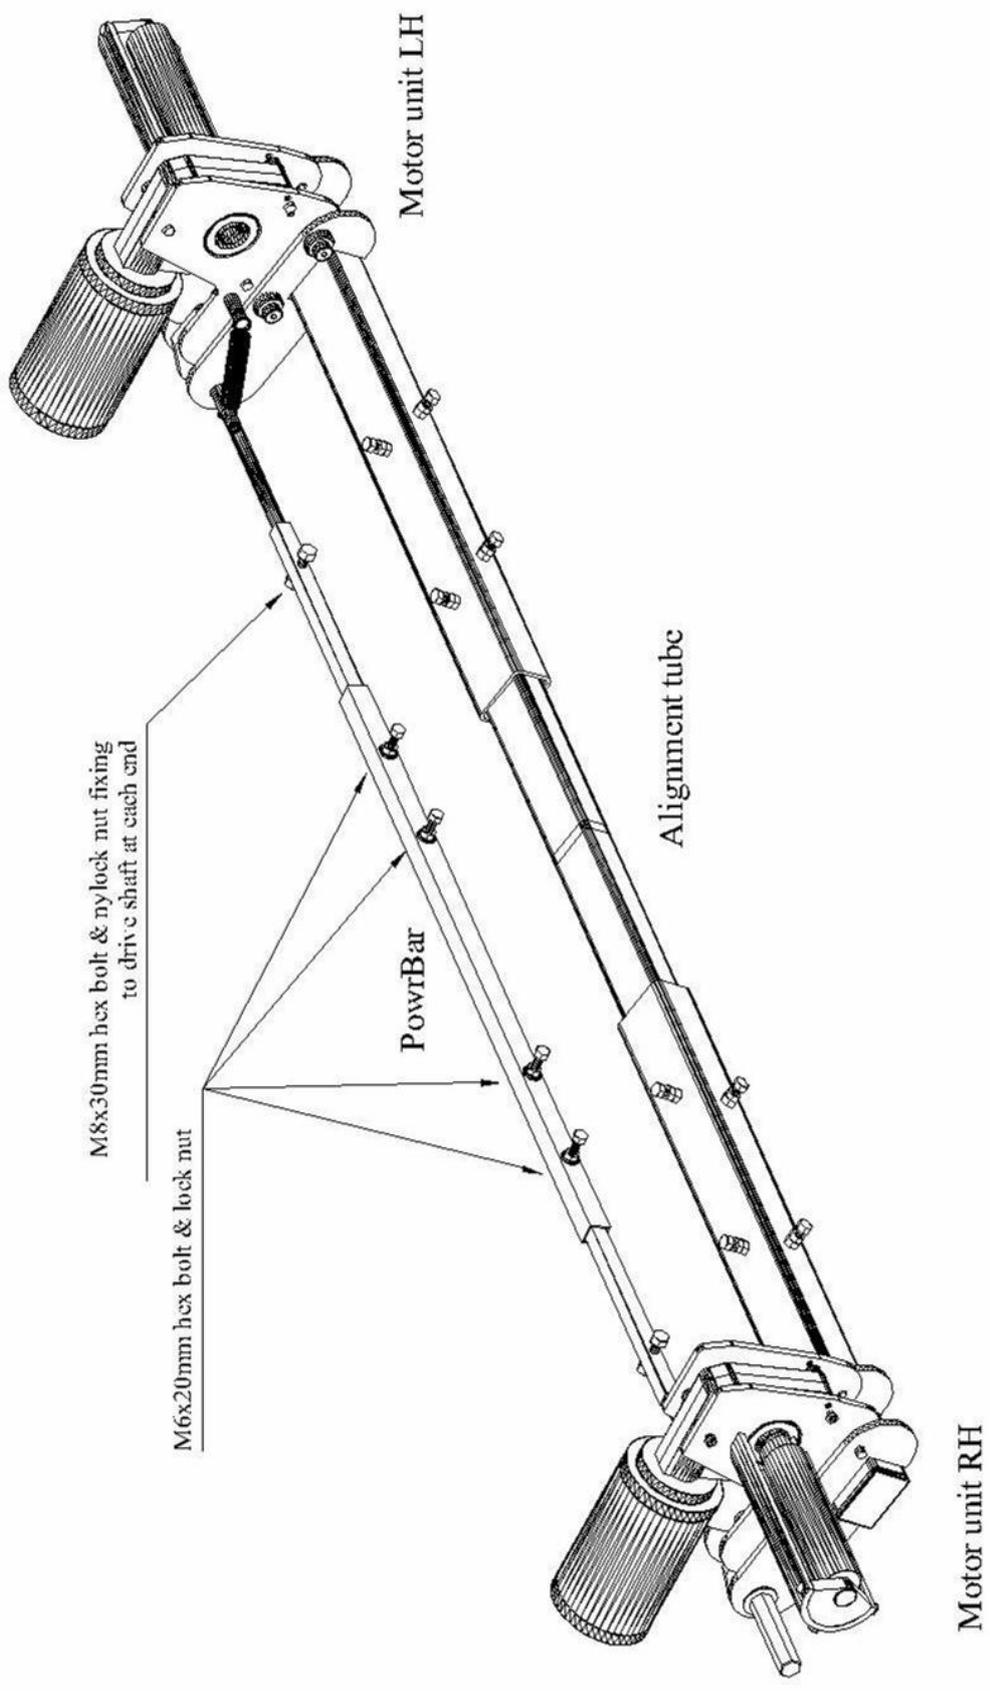

Fig 5. Drawing showing PowrBar Installation
**For safety reasons it is recommended that the fitting of the Powrtouch should be undertaken on a flat hard standing.** Before raising the caravan ensure the handbrake is on and then it can be raised as required (using trolley jack and/or axle stands) and secured in position using the caravan steadying legs with supporting blocks and wheel wedges as necessary; it is then helpful to lay down a ground sheet. Remove all items from the packaging onto the protective sheet. Ensure both rollers are in the DISENGAGED position, as the unit will not fit correctly otherwise. Loosely assemble the left hand motor unit, right hand motor unit and alignment tube as shown in fig. 5, and place under the caravan/trailer.
Fitting of the unit is quite simple but before you begin please check the parts list and familiarise yourself with how your unit fits together. Fig 5 shows how the parts look assembled.
With the drive rollers disengaged then in the approximate installation position under the caravan loosely assemble the Powrbar parts as shown in Fig 5. Choose which side of the trailer to start installation and raise one end of the loosely assembled Powrbar and slide it over the round drive shaft (internal end of hex shaft). Repeat this process on the other side of the caravan/trailer so that the Powrbar is now suspended from the drive shafts. Using the two M8 x 30mm bolts and nyloc nuts secure each of the Powrbar end tubes to the drive shafts. Then ensure that the centre tube is moved into a position approximately central to the whole Powrbar assembly before securing it with the four M6 x 20mm bolts and the locking nuts.